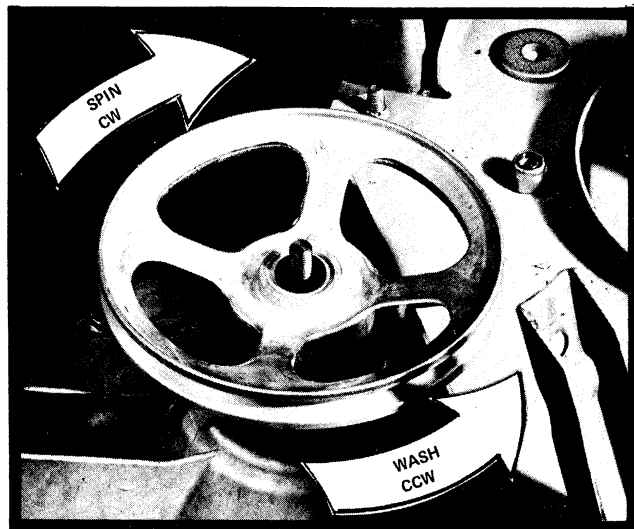

Figure 74
- Install the rubber washer flush with the pulley, *Figure 74*.